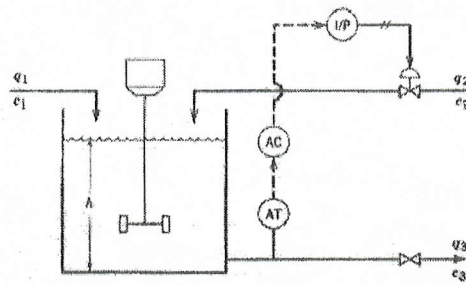

Figure Q.2: Liquid blending system
2. It is desired to control the exit concentration of c_3 of the liquid blending system shown in Figure Q.2.